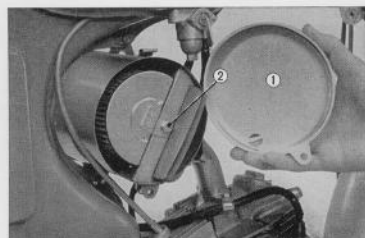

Fig. 4.67 Removing air cleaner mounting bolts (S 90)
1. Remove the air cleaner case cover screws, one each on the right and left side and take off the cover ①. Unscrew the air cleaner mounting bolt ②. (Fig. 4.67)